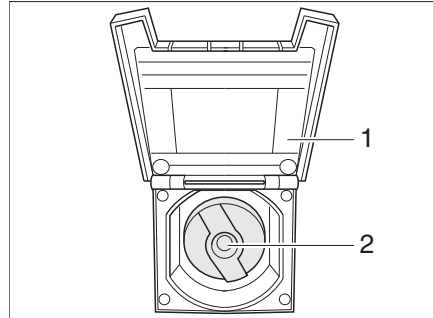

Fig. 283 Cap for the drinking water filler neck
- Open the cover flap (Fig. 283,1) of the drinking water filler neck.
- Insert key into locking cylinder (Fig. 283,2) and turn a quarter turn in an anti-clockwise direction.
- Open drinking water filler neck (Fig. 283).